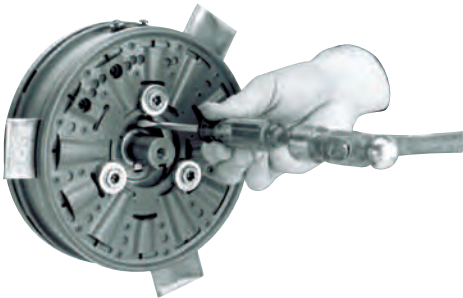

Figure 11 - Seating the taperlock bushing.
Slip the armature hub assembly onto the motor shaft until the armature makes contact with the shims. Using a drift, lightly tap on the taperlock bushing at several points around the circumference with a small hammer until it will slide no further onto the shaft. (See Figure 11)
Step 10: Using a torque wrench, tighten the hub bushing screws (Item 12) alternately and evenly until tight. Place a drift against the large end of the bushing at several points around the circumference and tap it lightly with a small hammer. (See Figure 11) Repeat this alternate tapping and re-tightening until the specified torque no longer turns the screws after tapping. Tighten the screws to 15 lb.ft. torque. The gap between armature and magnet must be 0.062" to 0.125 inch. If the gap is outside of that range, reposition the armature hub assembly as described in Steps 11 & 12; otherwise, go to Step 13.